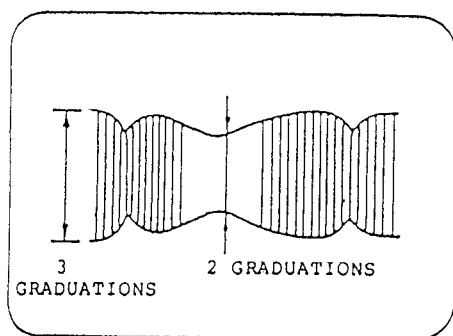

Fig. 3-16
6. ADJUSTMENT AFTER REPLACING CYLINDER (VIDEO HEADS) (Fig. 3-16)
- 5) Adjust the voltage level control of the oscilloscope so that the maximum amplitude of the FM output is set to 4 graduations on the monitor of the oscilloscope. (See Fig. 3-16)
- 6) Turn the TRACKING control to set the maximum amplitude of FM output to 3 graduations on the monitor of the oscilloscope. (See Fig. 3-16)